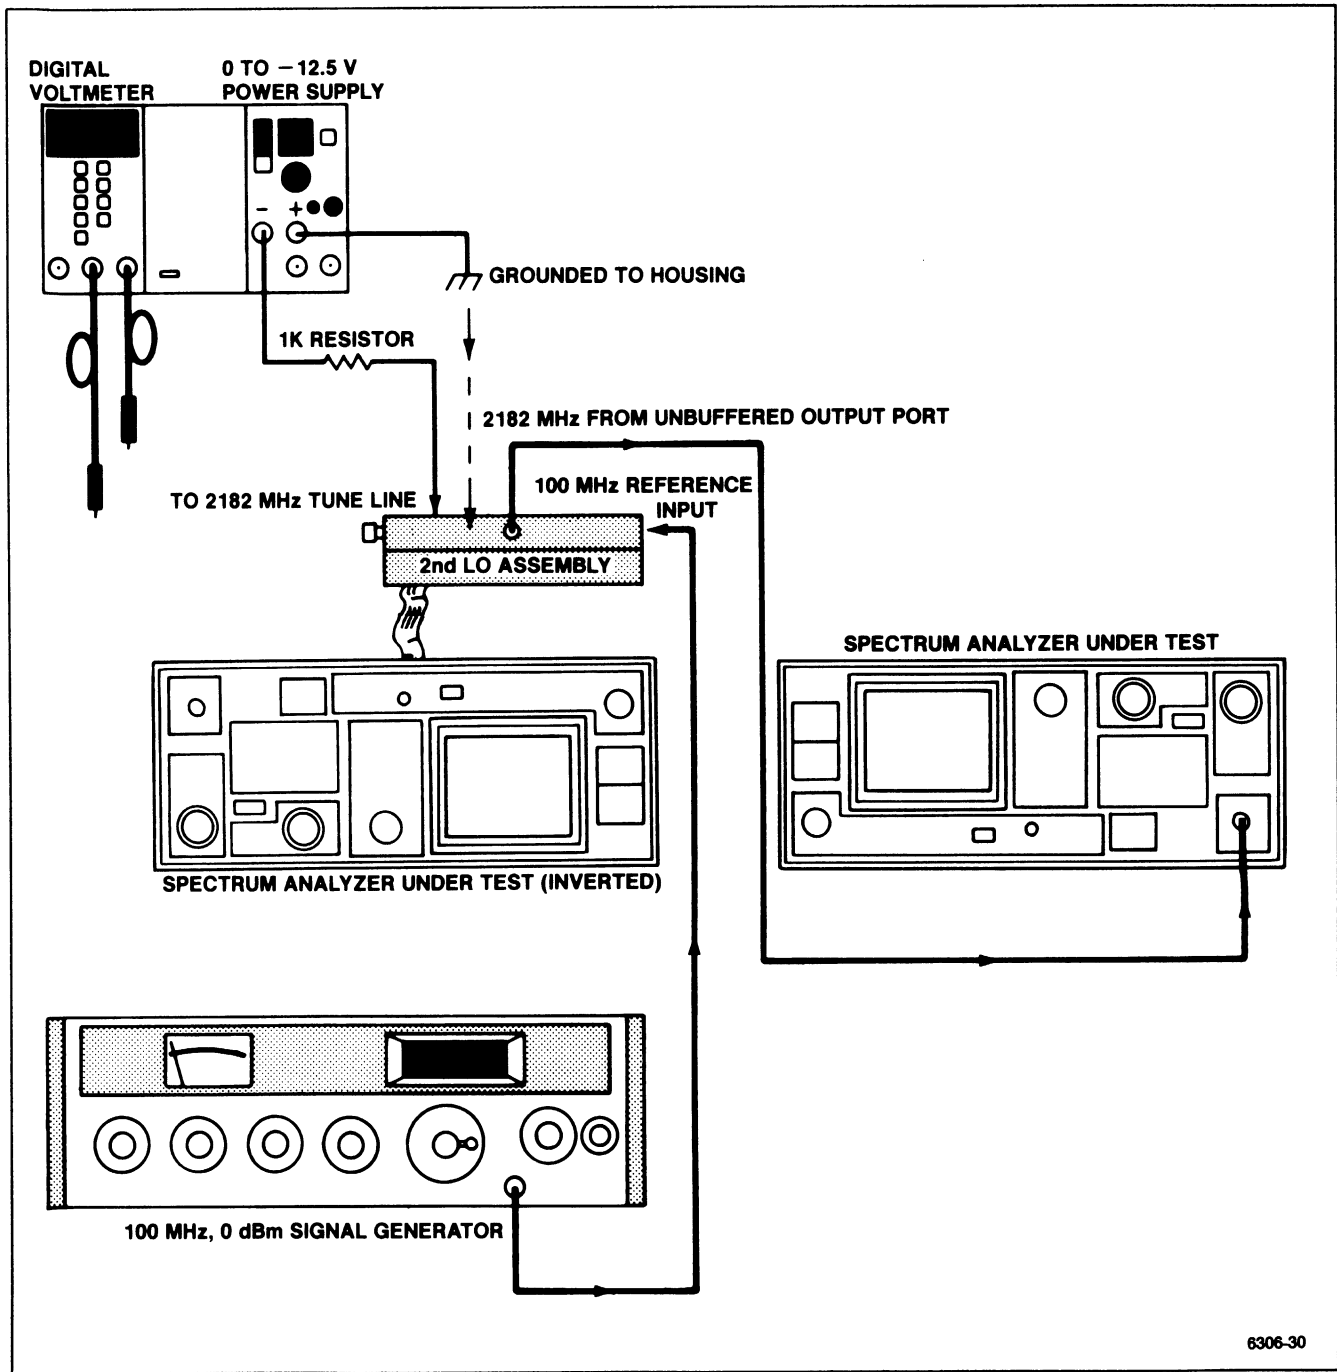

Figure 6-15. 2182 MHz Phase Locked 2nd LO adjustment setup.
Test equipment setup is shown in Figure 6-15. Turn the POWER off. Remove the cabinet. Place the Spectrum Analyzer on its side so the RF deck is exposed. Use a 5/16 inch wrench to loosen and remove the two semi-rigid cable connections to the assembly. Remove the flexible coaxial cable connection to the 100 MHz input.
a. Connect the test equipment as shown in Figure 6-15.